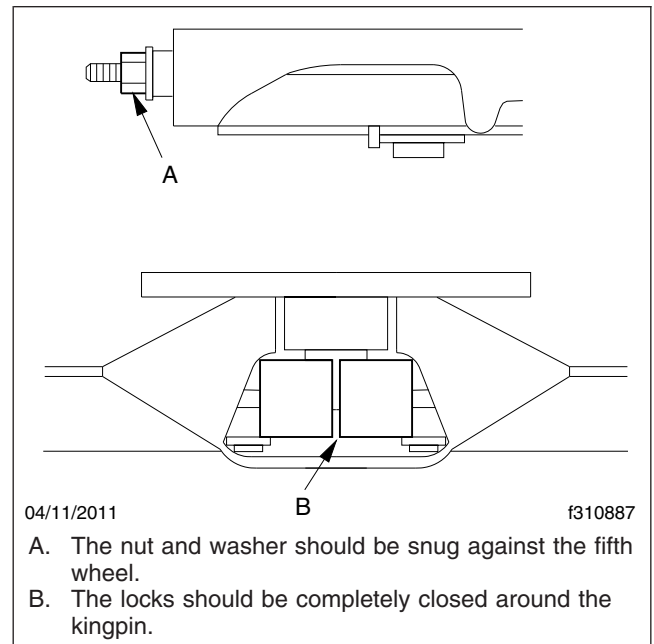

Fig. 1, Holland Fifth Wheel Properly Closed
6. Using a Holland Kingpin Lock Tester (Holland tool number TF-TLN-5001, available through the PDCs as HLD TFTLN5001), check the operation of the locking mechanism by opening and closing the locks. See Fig. 1.